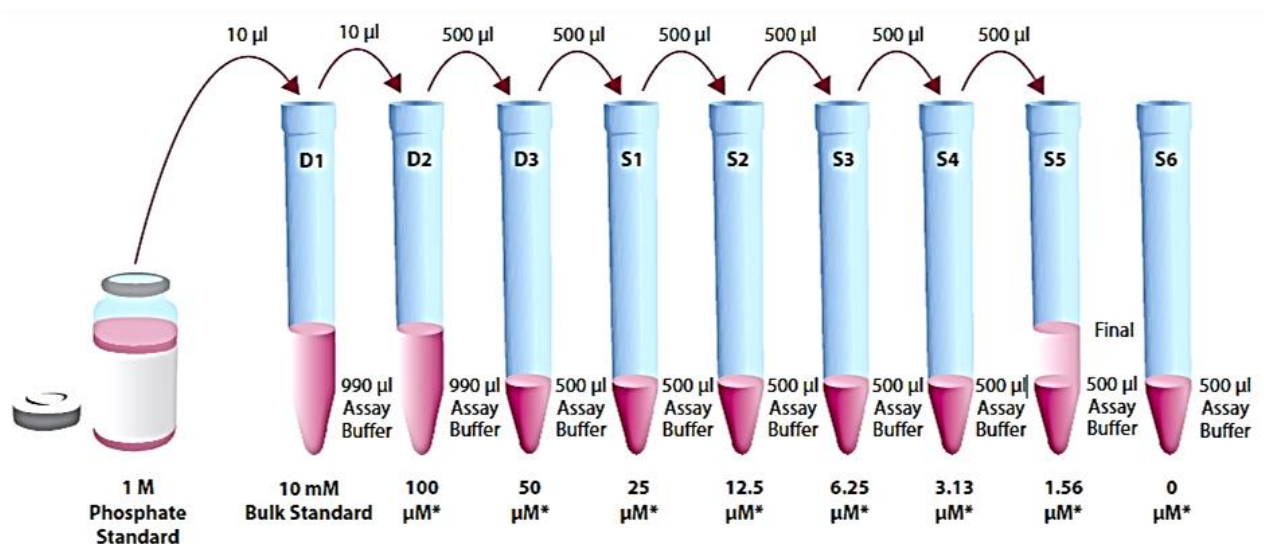

Figure 1. Phosphate standard curve dilutions
1. Prepare the six point standard curve (see Figure 1).